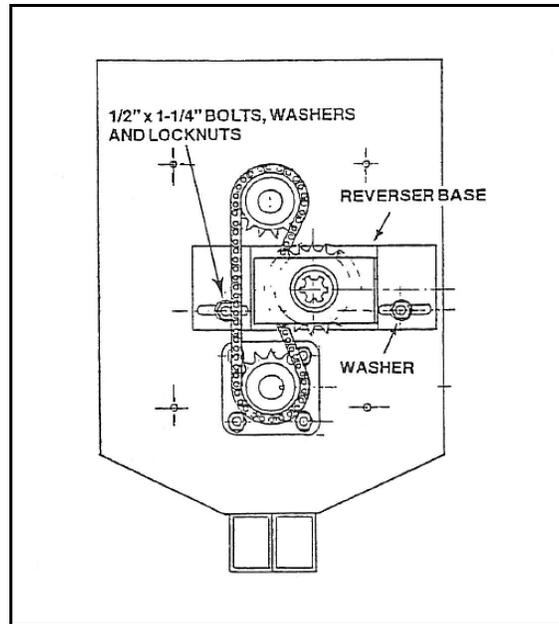

Figure 2
2. Install reverser base with two 1/2" x 1-1/4" bolts, washers and locknuts. Do not tighten until Step 6 (Figure 2).